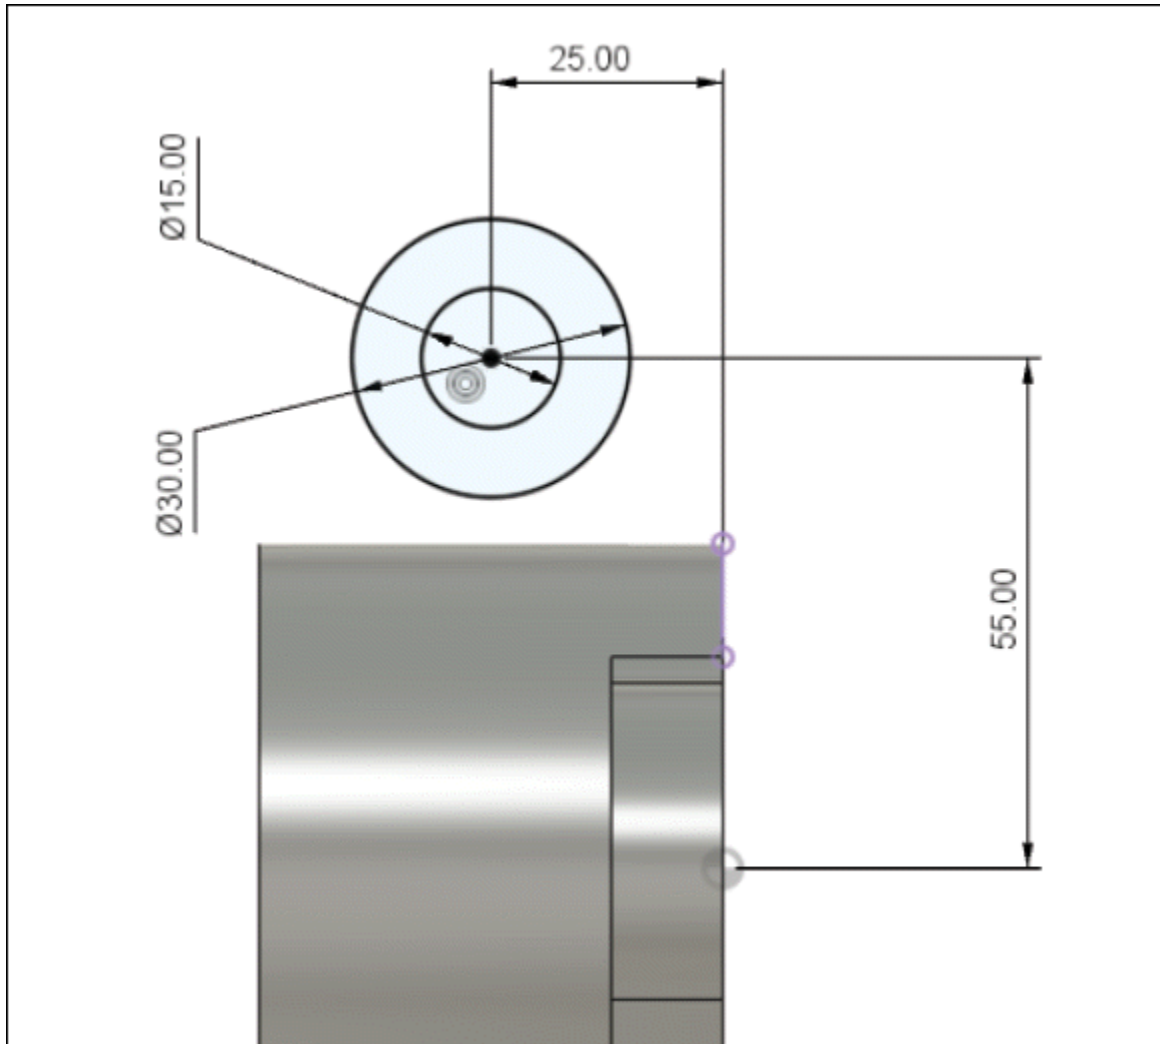

Figure-48. Creating the sketch
- Select **Center Diameter Circle** tool of **Circle** cascading menu from **CREATE** drop-down and create two circles of diameter **15 mm** and **30 mm**; refer to Figure-48.